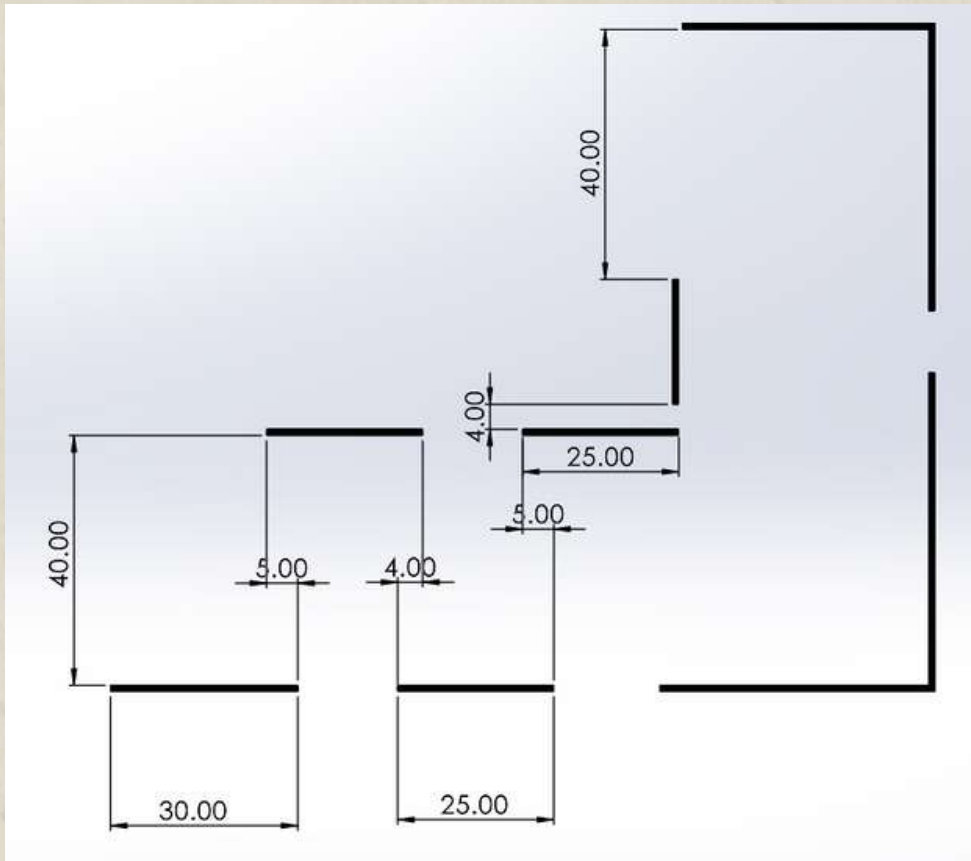

Figure 2.4 - Sample wall following area (dimensions are in cm)
1. Figure 2.4 shows that segmented walls may contain straight parts and 90-degree turns.
Special Note - The dimensions, except those constrained according to the above 6 points, may differ from the sample arena in figure 2.4.